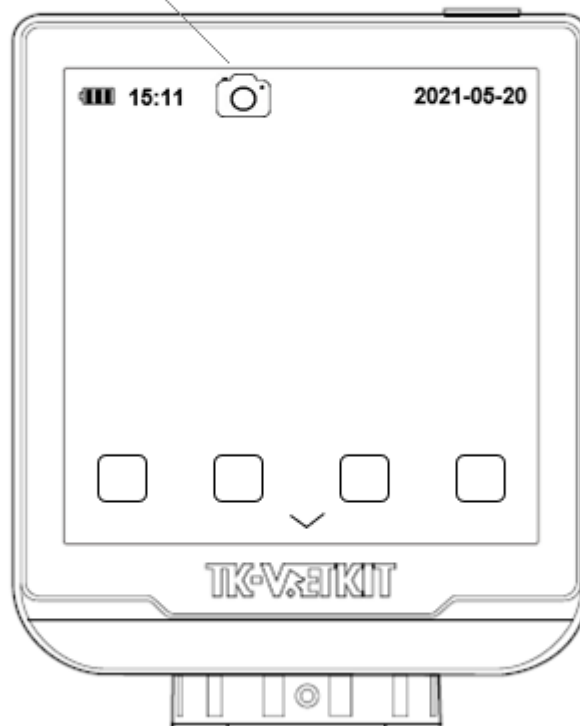

Figure 3.8
5. Confirm the product function: Short press the button 2# on the handle. An icon  will appear in the upper left corner of the LCD screen, indicating that the product can take photos normally (as shown in Figure 3.8). Short press the button 3# on the handle. A flashing red icon  will appear above the LCD screen, indicating that the product can be used for video recording normally (as shown in Figure 3.9).